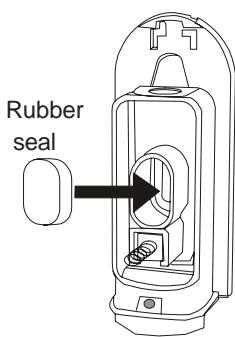

Fig.4
- Insert the oval-shaped rubber seal (supplied on production models) as shown in Figure 4.